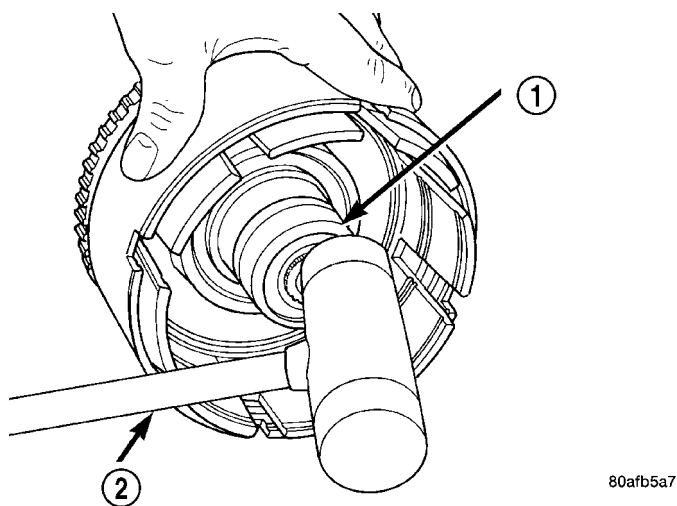

Fig. 231 Tap on Input Hub
(16) Tap on input hub with soft faced hammer and separate input hub from OD/Reverse piston and clutch retainer (Fig. 231).